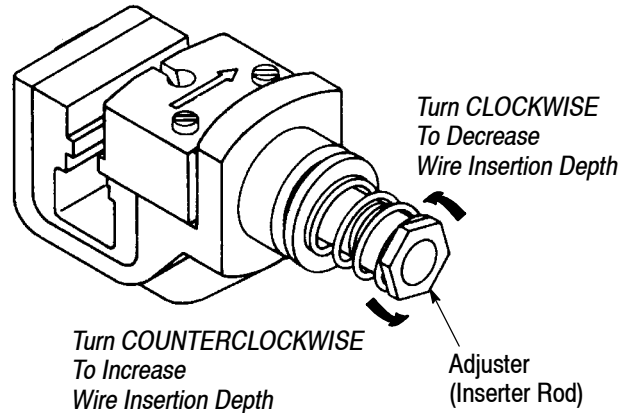

Figure 3
2. Turn the adjuster (inserter rod) one-sixth of a revolution *clockwise* if the wire is too deep in the contact, and *counterclockwise* if the wire is not deep enough in the contact. Refer to Figure 3. This will decrease or increase the wire insertion depth by approximately 0.20 mm [.008 in.].